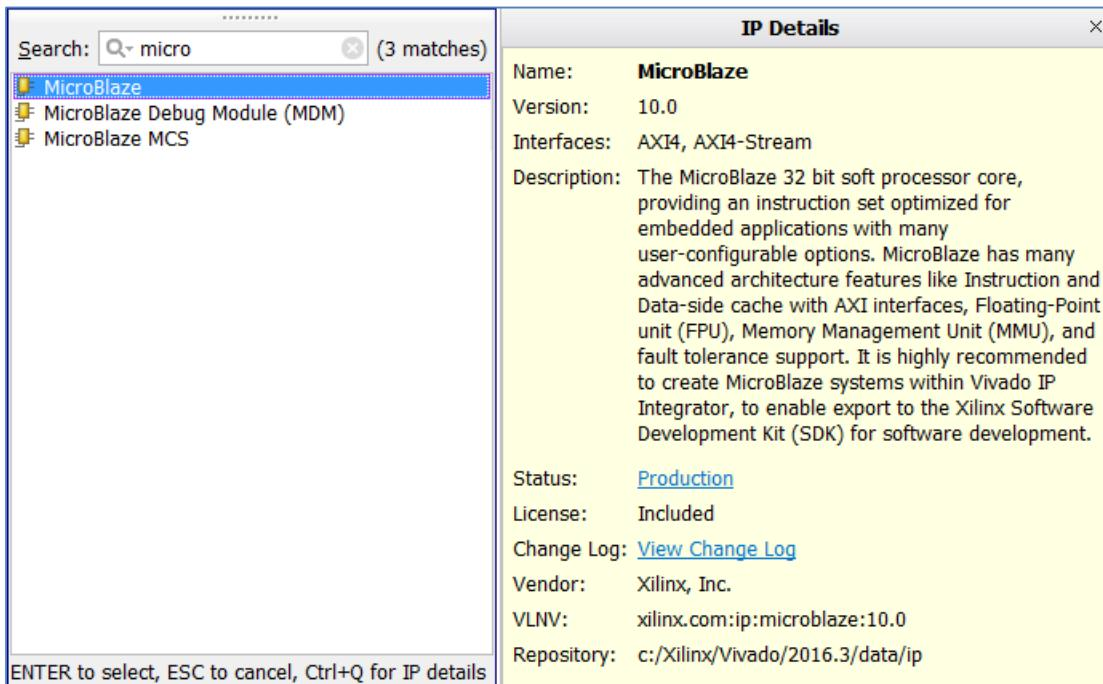

Figure 87: Search Field
6. As shown in Figure 87, type **micr** in the Search field to find the MicroBlaze IP, then select **MicroBlaze** and press the **Enter** key.